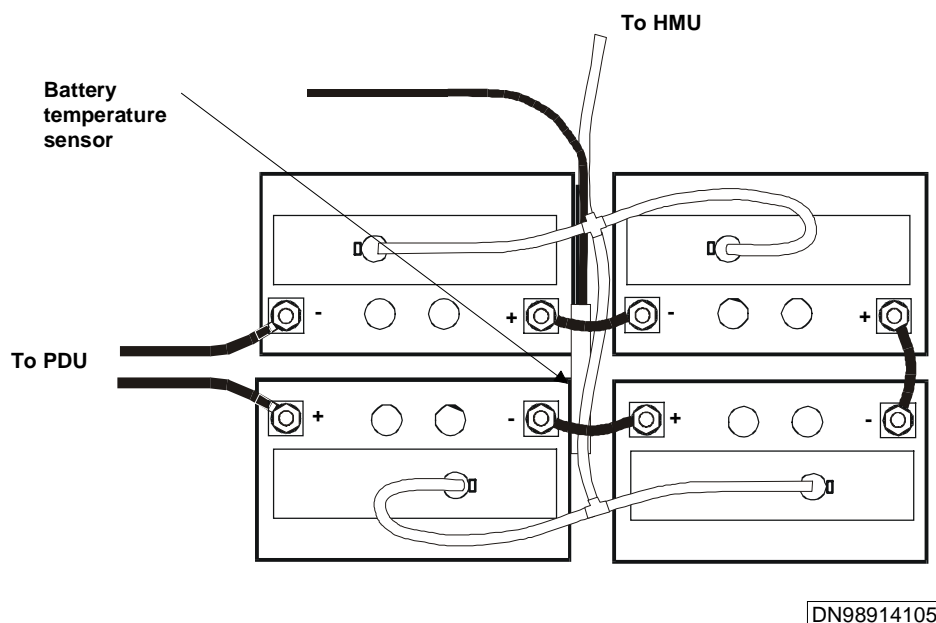

Figure 68 Four battery block installation
2. Place the batteries on the lower tray as shown in Figure 68.
3. Connect the cables, cable bridges and the battery ventilation tubes as shown in Figure 68. Use an insulated torque wrench and tighten the battery contact screws to 6.78 Nm (5.0 ft-lb.).
4. Position the battery temperature sensor as shown in Figure 68. Secure the sensor in position using a cable wrap.